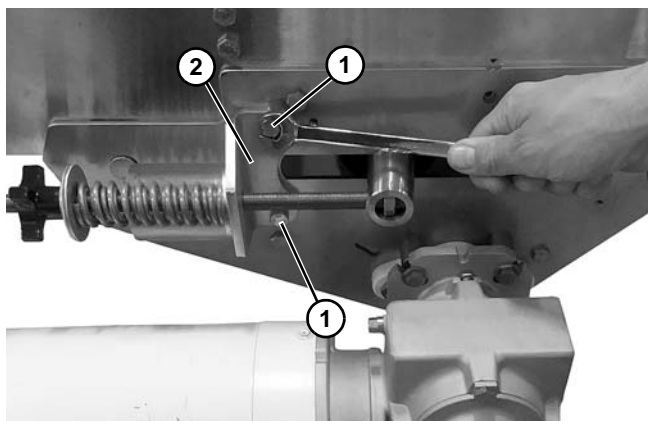

Figure 97
7. Remove two bolts (**Figure 97, item 1**) from plate (**Figure 97, item 2**) on both sides of the center drive.